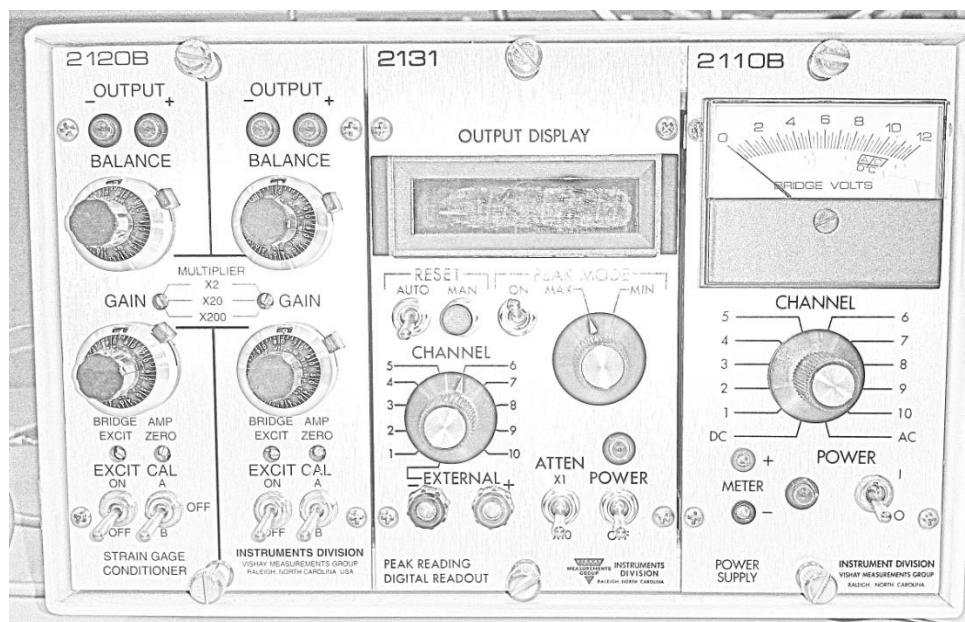

Figure 5: Front panel of the Wheatstone bridge amplifier.
2. Note that the Wheatstone bridge readout device (Figure 5) has three modules: